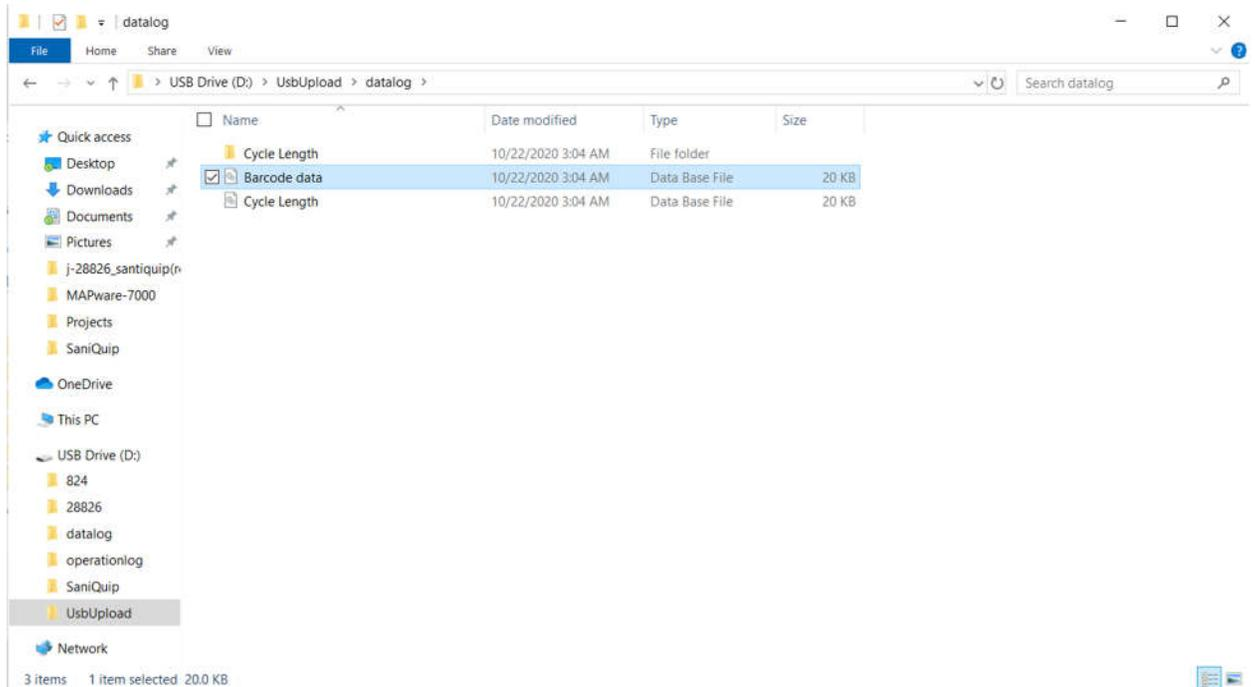

Fig. 28 File selection screen
10. Use the file explorer to navigate to the folder the data was uploaded to. This screen should look like the one shown in fig.28. Double click on the .db file that is to be converted.